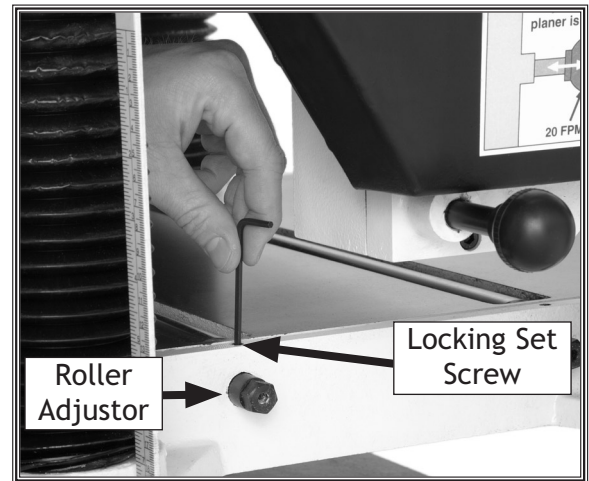

Figure 14. Typical bed roller controls (only one side shown).
3. Using a 3mm hex wrench, loosen the locking set screws (see Figure 14) above the roller adjusters (4 total).